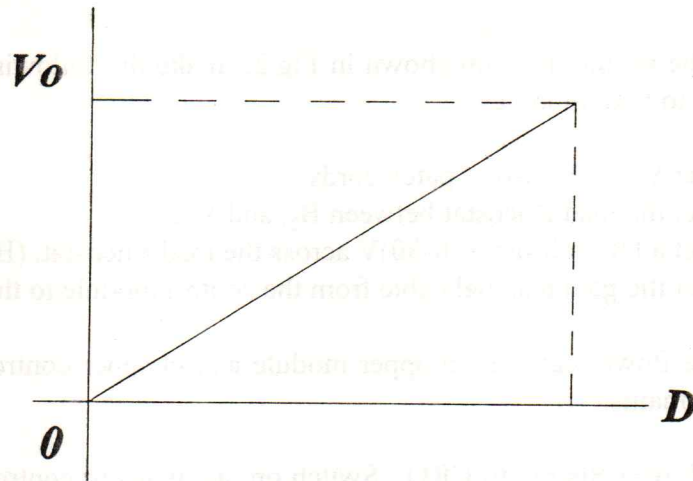

Fig.E.2.2 Duty Cycle Vs Voltage output.
9. Plot a graph between the output voltage V_o and the duty cycle ratio D . It will be as shown in Fig.E.2.2.